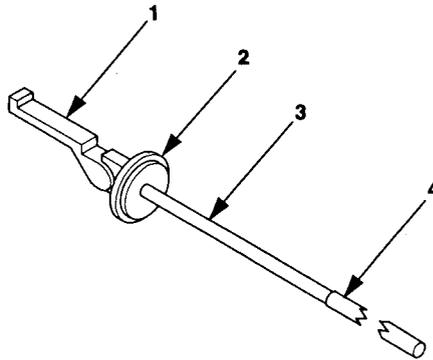

Figure 2-20. Auxiliary Fuel Source (Typical)
- a. Disconnect the auxiliary fuel hose (3, Figure 2-20) from the generator set external fuel supply connector. Elevate the free end of the auxiliary fuel hose to drain fuel back into the external fuel source. Place free end of auxiliary fuel hose on a clean surface.
- b. Disconnect auxiliary fuel hose from fitting on container adapter (1).